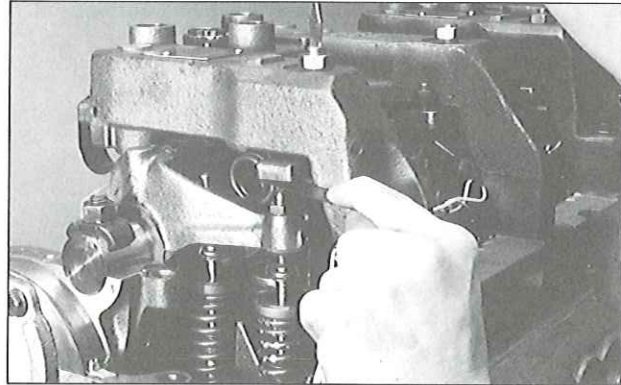

FIG. 20
3. Turn the slave piston adjusting screw clockwise until a slight drag is felt on the feeler gage (see Fig. 20).